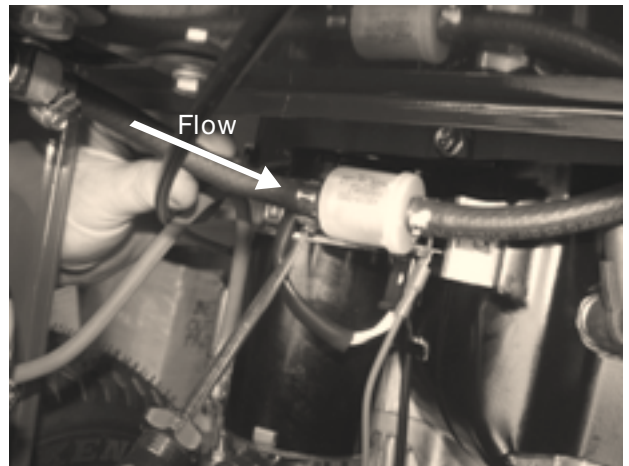

Figure 22
2. Using a straight screwdriver/pliers, loosen clamps **Figure 22**.